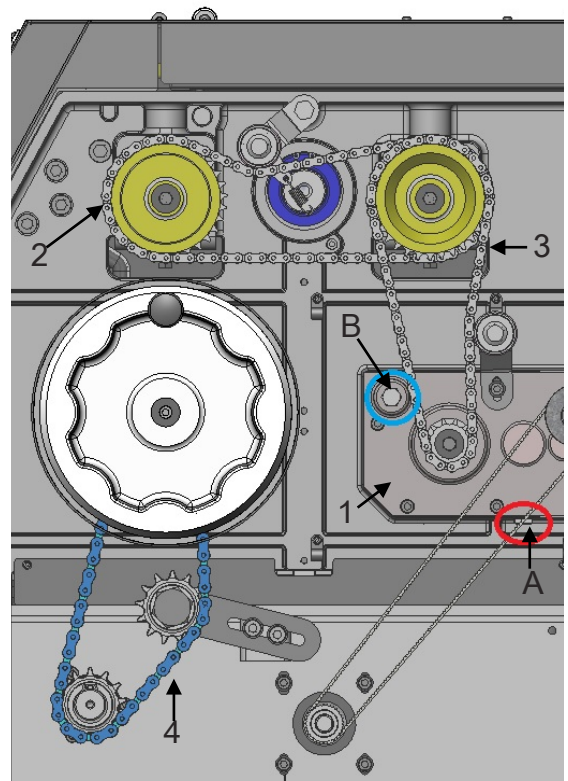

Figure 25: Lubrication
Lubrication (Fig. 25, 26 & 27)
- The Gear Box oil must be changed after 2500 hours of work. (Fig. 25)
- All chains must be lubricated regularly. (Fig. 25 & 26)
1. Loosen the screw (Fig. 25, A).